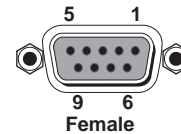

Figure 2-6 — Remote port pin assignments for the TPT150 and TPR150
- ⑧ **RS-232 port** — Connect a host device, such as a computer or touch panel control, to the TPT150 transmitter via this 9-pin D connector and a null modem serial port cable for serial RS-232 control (figure 2-6).
- ⑯ **RS-232 connector** — Connect a serial cable (figure 2-6) between this 9-pin D connector and the RS-232 connector on the display for control of the display.